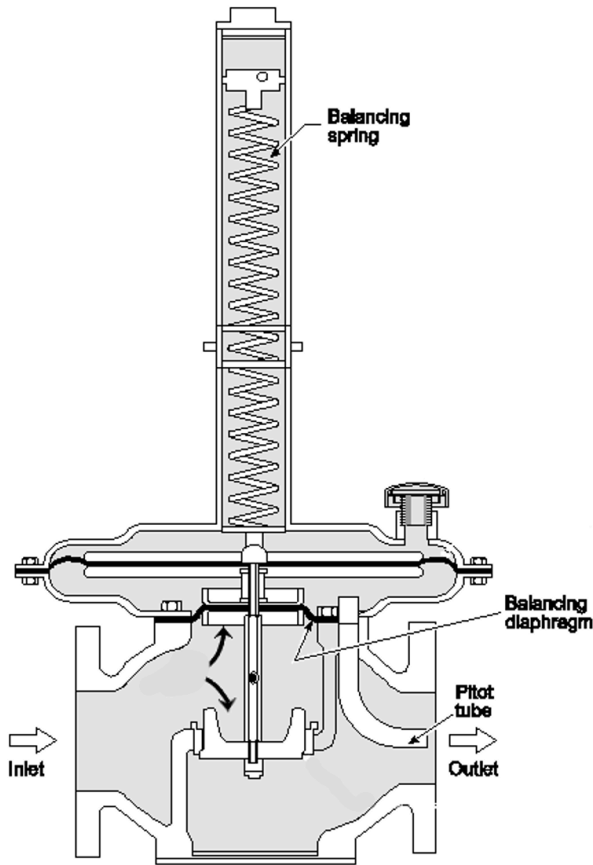

Figure 37A
They are balanced diaphragm designs with a very light balancing spring designed to only lift the force created by the weight of the moving parts (Figure 37A).
- Figure 37A (Left) – The source for this image is unknown. It is being used for non-commercial, educational purposes. To receive credit for this image, please reach out to the publisher.